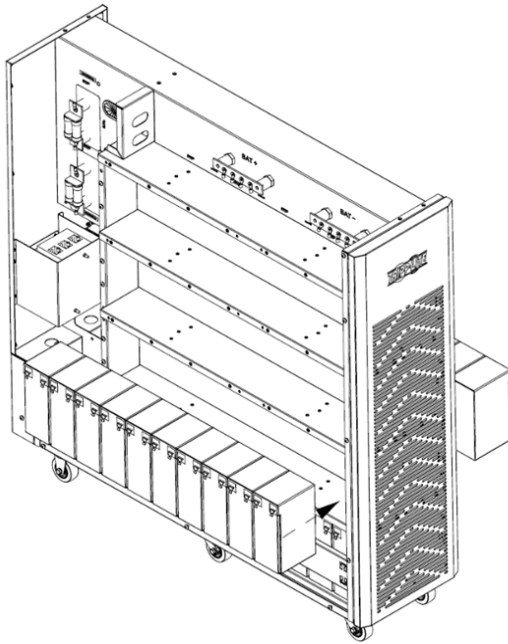

Figure 5-8A
8. Install 10 battery packs in the next layer (L2-A, group 2 positive string). Be sure to keep terminal sides of all batteries up (Figure 5-8A).